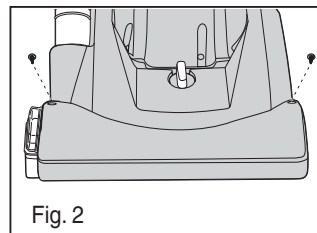

Fig. 2
(Fig. 2).
- 2) **Base hose** – remove 2 screws and brush roll cover. Clear blockage from base hose. Check for debris in brush roll and replace screws and cover (Fig 2).